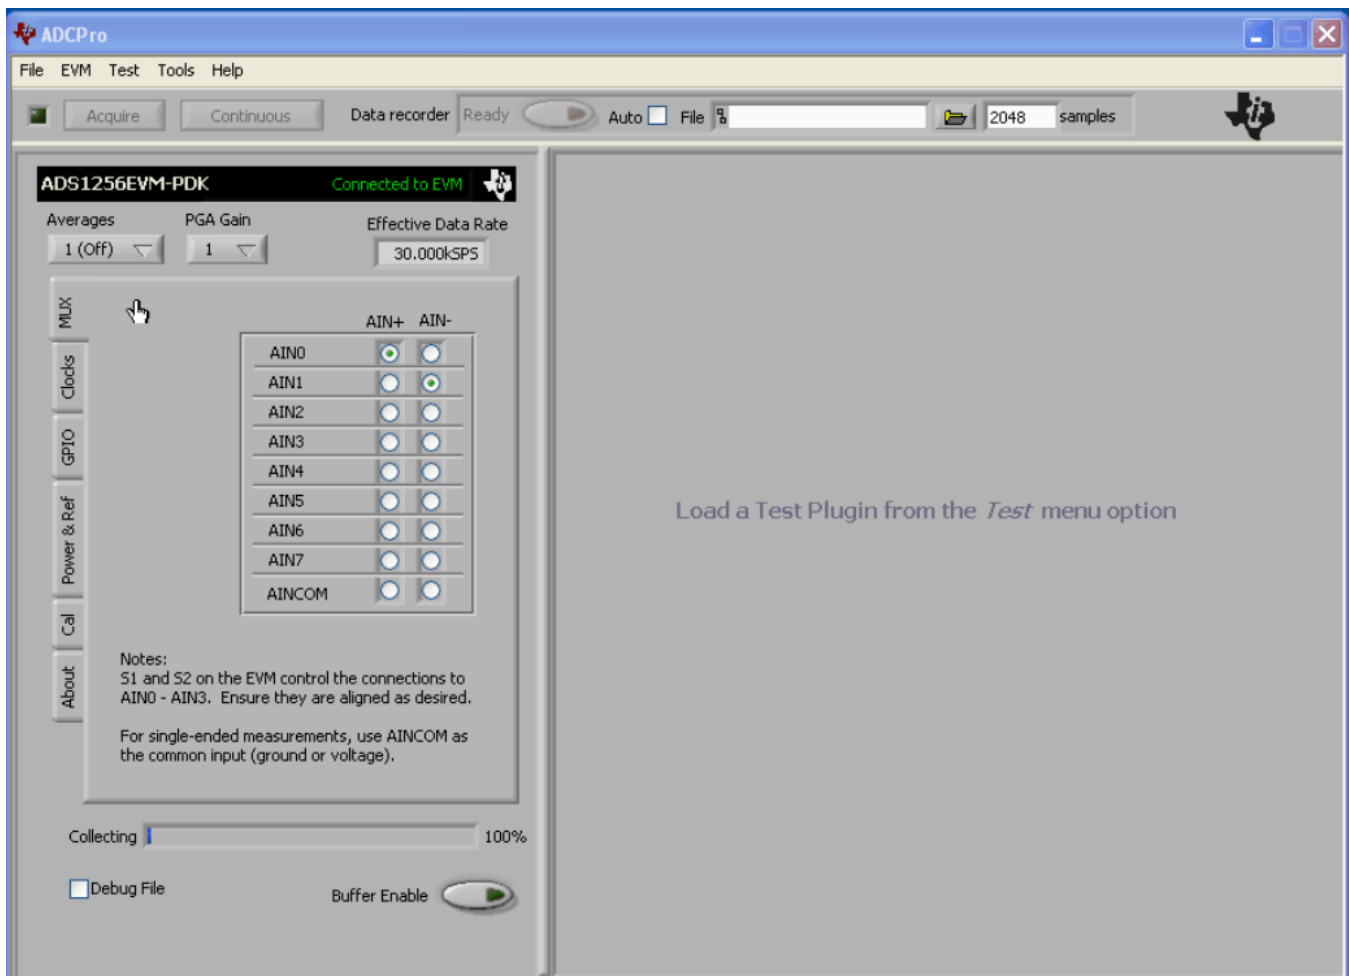

Figure 22. ADS1256EVM-PDK Plug-In Display Window
2. Select *ADS1256EVM* from the EVM drop-down menu. The ADS1256EVM-PDK plug-in appears in the left pane, as Figure 22 shows.
The ADS1256EVM-PDK plug-in for ADCPro provides complete control over all settings of the ADS1256. It consists of a tabbed interface (see Figure 22), with different functions available on different tabs. These controls are described in this section.